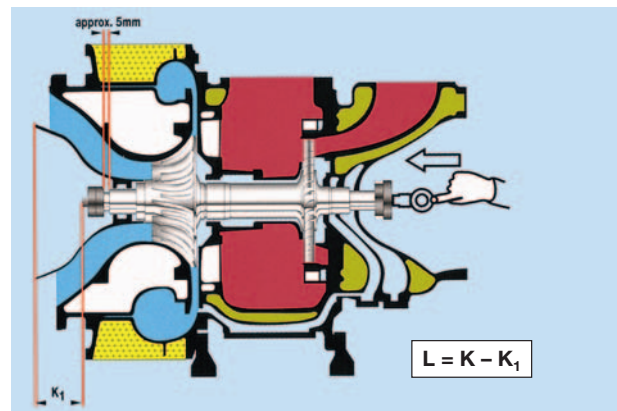

Fig. 2
- Measure dimension K1 (see Fig. 2).